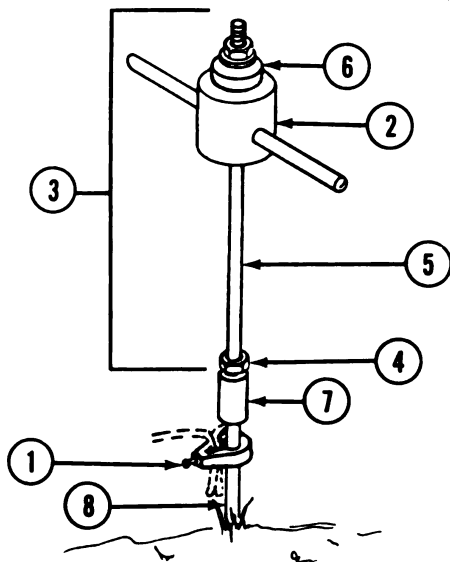

Figure 17-5. Slide Hammer Assembly (Removing Ground Rod)
(6) Loosen clamp screw (1, Figure 17-5), and disconnect trailer ground wire assemblies. Retighten clamp screw (1), and secure trailer ground wire assemblies to front of each trailer with straps provided.